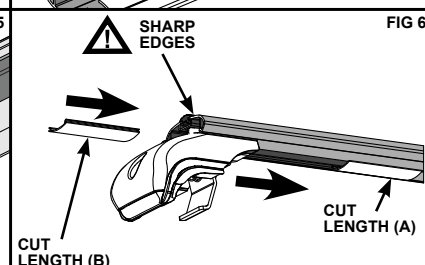

FIG 6
4. Next, insert all four End Supports into position. Using the remaining lengths of Undercover Strip, insert into the remaining gap of the Cross Bar until it touches the edge of the End Support. Trim the strip back to align with the edge of the Cross Bar for all four 'Cut Length (B)' strips as shown in Figure 6.